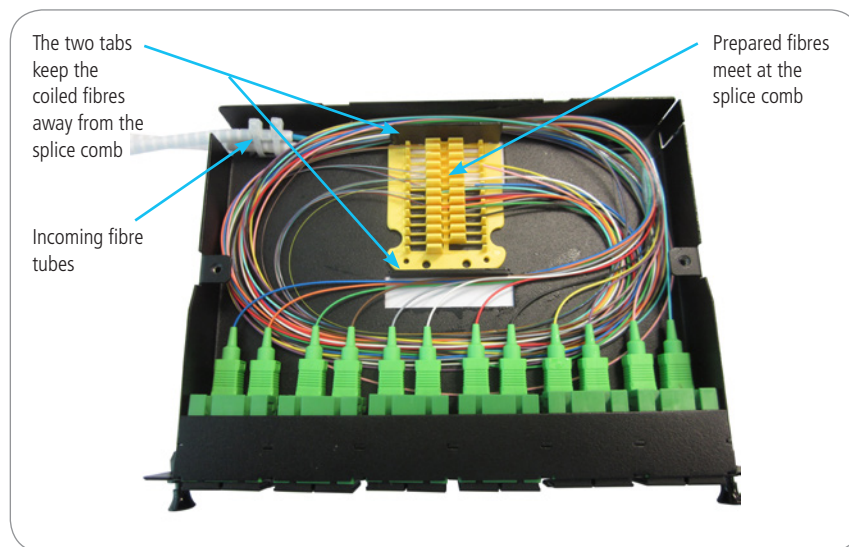

Figure 8.
- Once all the pigtails are fitted to the adaptors, loom the pigtails around the cassette twice. A small piece of tape will help manage the fibres and keep them neatly routed. Cut the excess fibre near the centre of the splice comb. Repeat this process for the incoming loose tube fibres. See **Figure 8**.